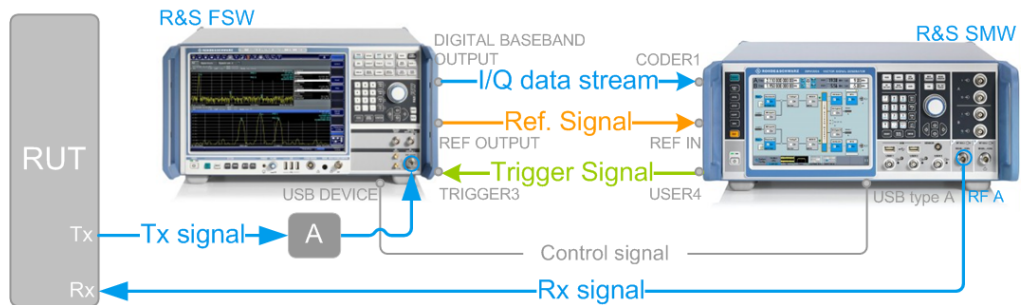

Figure 4-1: Example of conducted test setup (front panel view)
- A **conducted test setup** is used (see Figure 4-1)
Required connectors are on the front panels, see Figure 4-1.
If the R&S FSW is connected to the R&S SMW as shown on Figure 4-1, the R&S SMW automatically detects it.